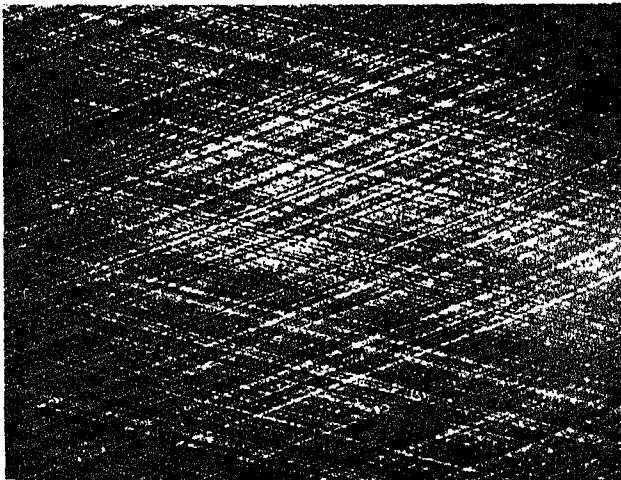

Fig. 1-2-5. Cylinder liner cross-hatch pattern
10. Do not start drill motor. Practice stroke a few times for "feel" with stones expanded loosely in liner and not in actual contact with walls. Down stroke hits stop, but operator must stop stroke at top allowing stones to extend out top of bore $\frac{1}{2}$ in. [12.7000 mm] to 1 in. [25.4000 mm]. Stroking speed required to produce a 35° to 45° crosshatch is approximately 50 strokes per minute, Fig. 1-2-5.
After pattern is uniform, stop hone; adjust stones to a firm but light pressure. Apply oil and make 4 or 5 full-length strokes and shut drill off while continuing stroke. Double stroke in bottom if necessary to time actual stopping of stone rotation when hone is at top of bore. This preserves cross-hatch pattern, and puts true stone pattern (20/30 rms finish) on cylinder walls, Fig. 1-2-5.